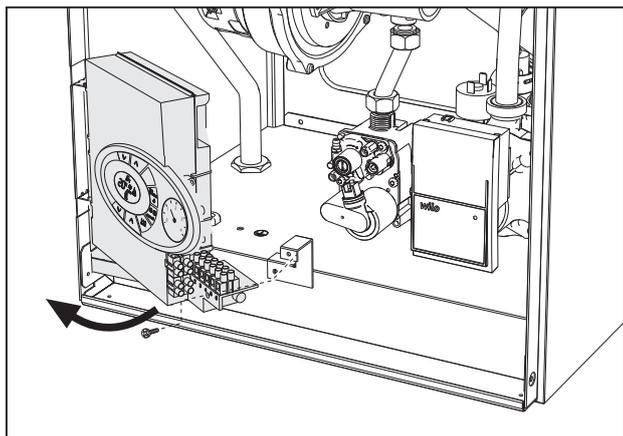

fig. 22
- Undo the screw and rotate the control panel (see fig. 22).